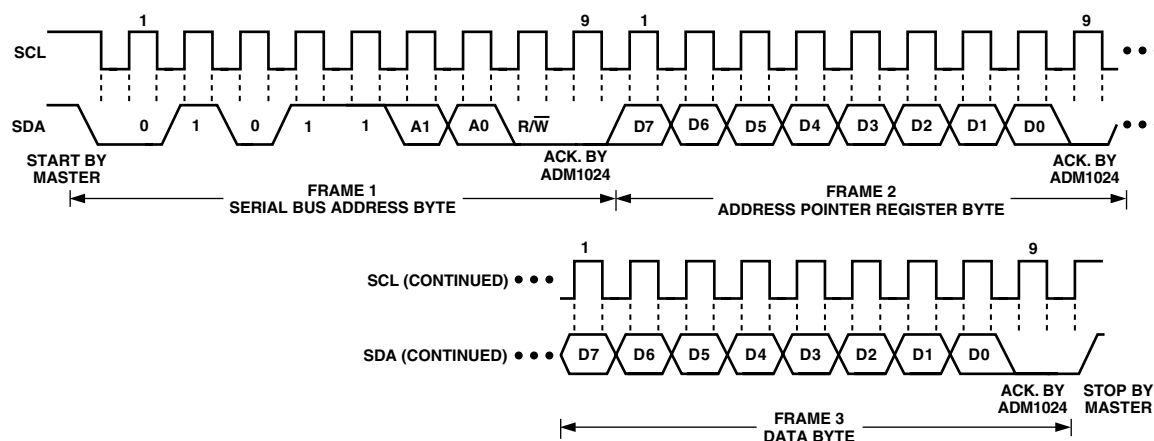

Figure 2a. Writing a Register Address to the Address Pointer Register, then Writing Data to the Selected Register
To write data to one of the device data registers or read data from it, the Address Pointer Register must be set so that the correct data register is addressed, then data can be written into that register or read from it. The first byte of a write operation always contains an address that is stored in the Address Pointer Register. If data is to be written to the device, the write operation contains a second data byte that is written to the register selected by the address pointer register. This is illustrated in Figure 2a. The device address is sent over the bus followed by $R/\overline{W}$ set to 0. This is followed by two data bytes. The first data byte is the address of the internal data register to be written to, which is stored in the Address Pointer Register. The second data byte is the data to be written to the internal data register.
- In Figures 2a to 2c, the serial bus address is shown as the default value 01011(A1)(A0), where A1 and A0 are set by the three-state ADD pin.